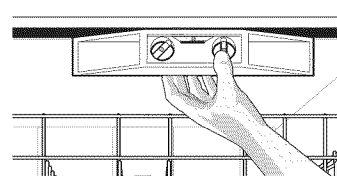

Figure 5a
- Check that dishwasher is level from side to side by placing a level against the top front section of the tub. See Figure 5a.